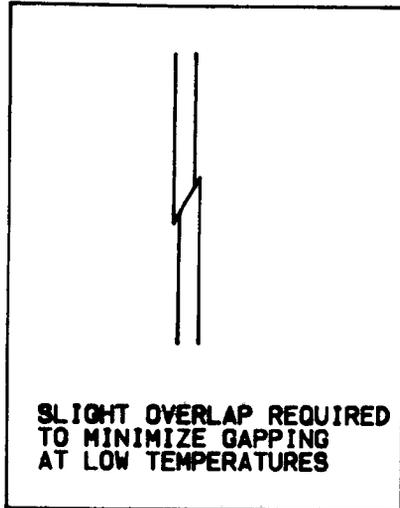

FIGURE 12
- 7.3 Installation: Slight over-lapping of the ends of MS28774 backup rings at room temperature is a design feature necessary to accommodate circumferential contraction at low temperature. The designed overlap does not interfere with O-ring performance (Figure 12).